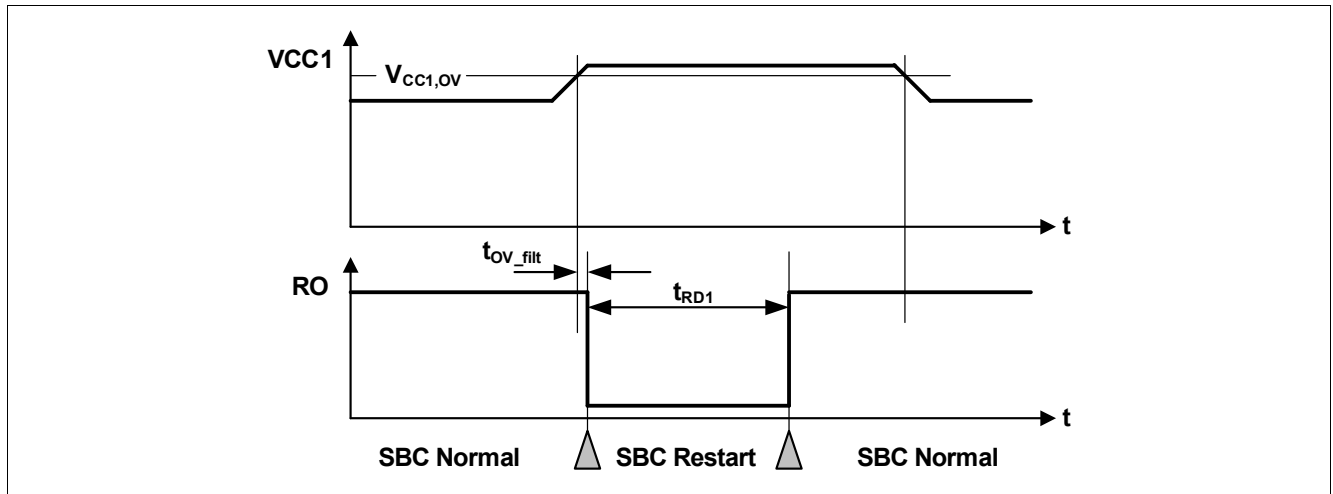

Figure 53 VCC1 Over Voltage Timing Diagram
- If the bit **VCC1_OV_RST** is set and **CFGF** = '1', then SBC Restart Mode is entered. The FOx outputs are activated. After the reset delay time (t_{RD1}), the SBC Restart Mode is left and SBC Normal Mode is resumed even if the VCC1 over voltage event is still present (see also **Figure 53**). The **VCC1_OV_RST** bit is cleared automatically;